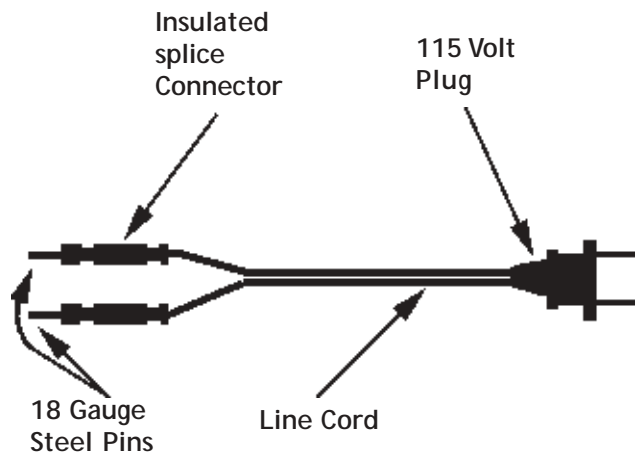

Figure 2-1
8. Using the test cord shown in *Figure 2-1*, make the following connection to CZT PC board wire harness connector;
- Using the test cord shown in Figure 2-1, make the following connection to CZT PC board wire harness connector.